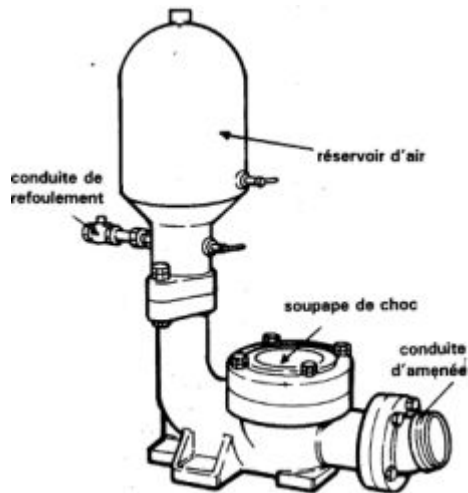

Figure 2- Conventional (Blakes) hydraulic ram pump made in Europe (Source [3] « Econogie »)
- Figure 2- Conventional (Blakes) hydraulic ram pump made in Europe (Source [3] « Econogie »)